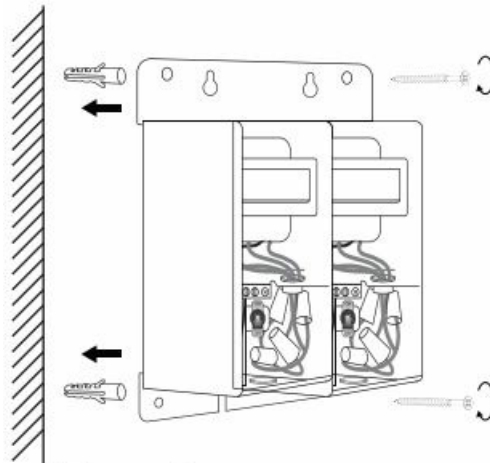

Figure 3
4. Use Screws and Anchors to fix the transformer on the wall (at least 1ft above the ground), making sure that the Wiring Compartments are facing down.(Figure 3)